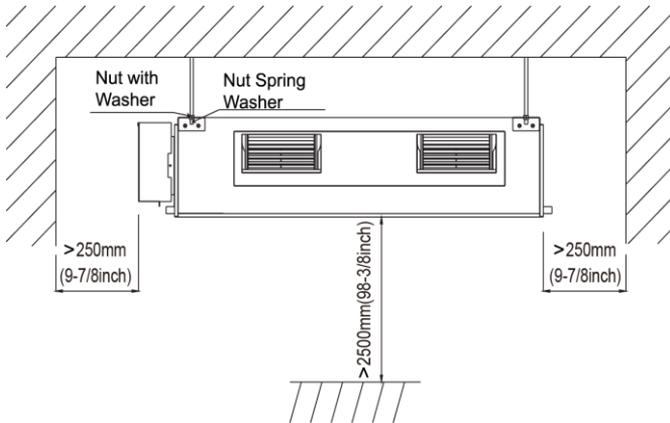

Fig. 3.1
- (1) Install the unit at a place where is strong enough to withstand the weight of the unit.
- (2) The air inlet and outlet of the unit should never be clogged so that the airflow can reach every corner of the room.
- (3) Leave service space around the unit as required in Fig. 3.1.